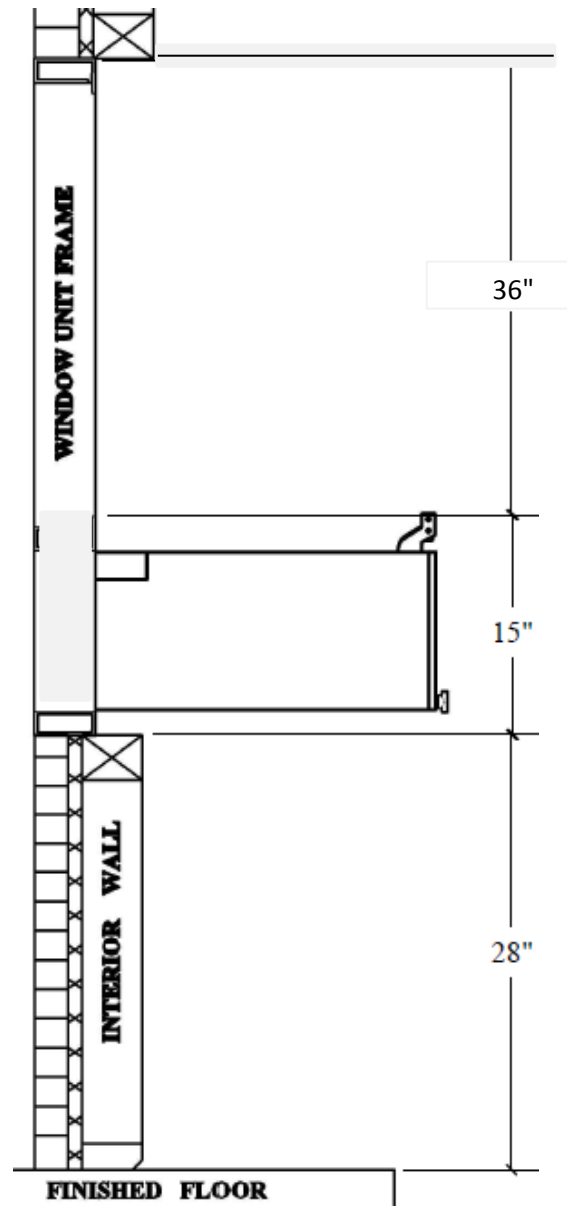

FIGURE 1
2. Anchor through each side jambs through the pre-drilled holes. (See FIGURE 1)